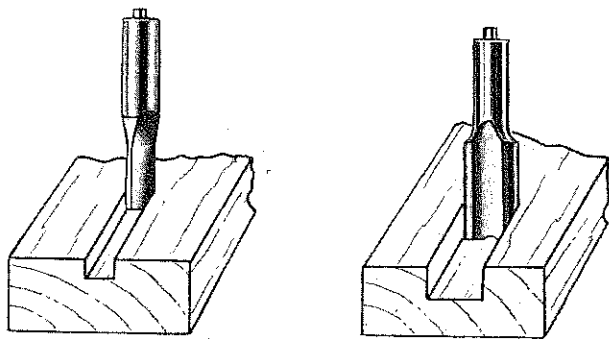

Fig. 12-3. Routing bits. Left. Single-flute, straight bit. Right. Double-flute, straight bit.
**ROUTING BITS** are used to cut dados, grooves, veins, coves, and mortises in the surfaces and edges of wood. Fig. 12-3 shows a straight bit that can be used for dados and grooves. These bits can be guided with a fence attached to the base, or with a template and guide. They are often used without the use of any type of guide. This is called **FREEHAND ROUTING** and requires a great deal of skill.